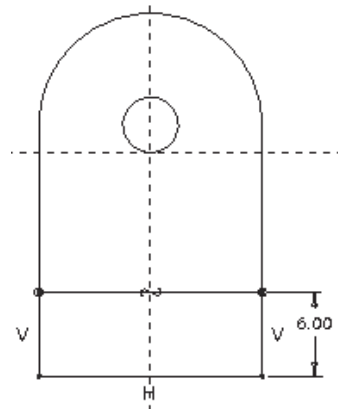

Figure 4-60 Sketch for the second feature
1. Draw the sketch, as shown in Figure 4-60.
2. The sketch is automatically constrained and some weak dimensions are assigned to it. Add the required constraints and modify the weak dimensions, as shown in Figure 4-60.